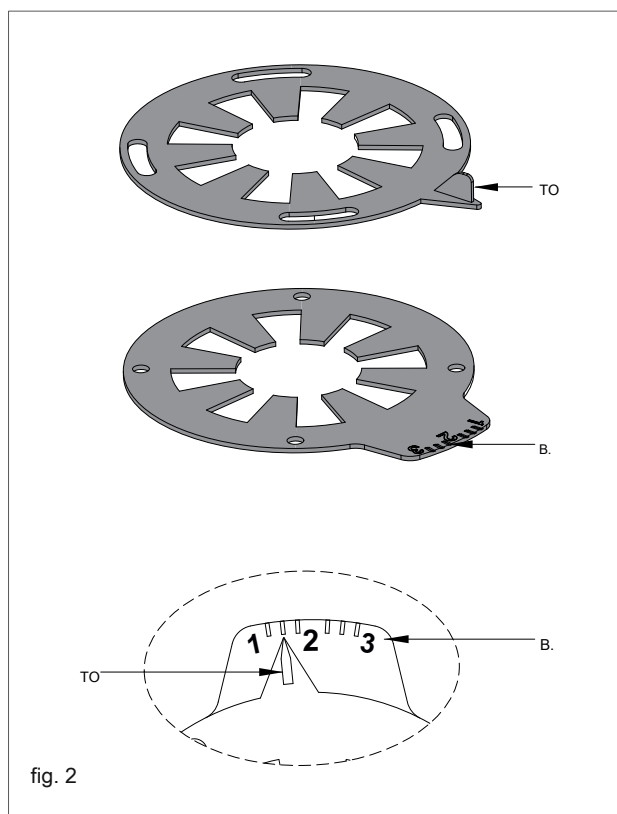

fig. 2
›The discharge duct must be perpendicular with the opposite internal wall of the chimney or flue (fig. 2).
TERMINAL COD. 80009LA (fig.2) Ø80 = 3 m
WARNING! IN CASE OF INSTALLATION WITH WALL EXHAUST IT IS COMPULSORY TO INSERT THE TERMINAL COD. 80009LA (fig. 2) IN THE SMOKE EXHAUST DUCT.
To adjust the diaphragms on the split system, proceed as follows (see fig. 2):
- ›Move the reference pointer (A-fig. 2) scrolling on the graduated index (B-fig.2) according to the adjustment to be made;